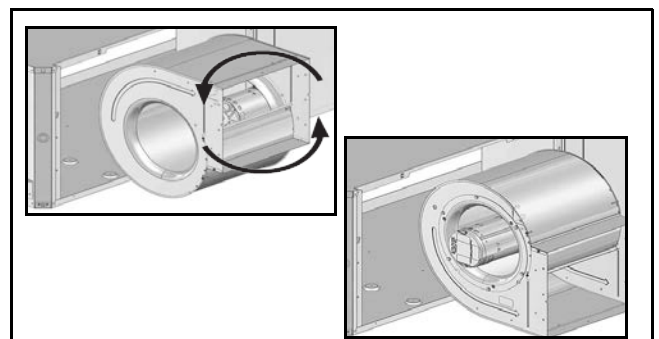

Fig. 34
11. Reorient the blower assembly 180 degree with the blower "belly" up. (See Fig. 34.)